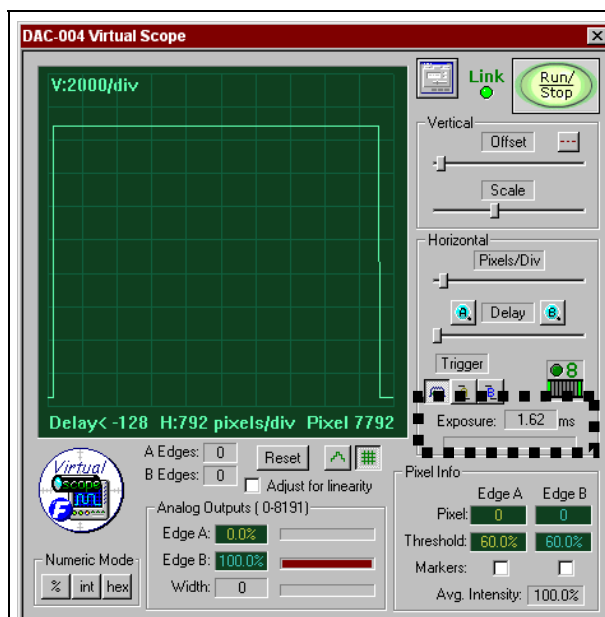
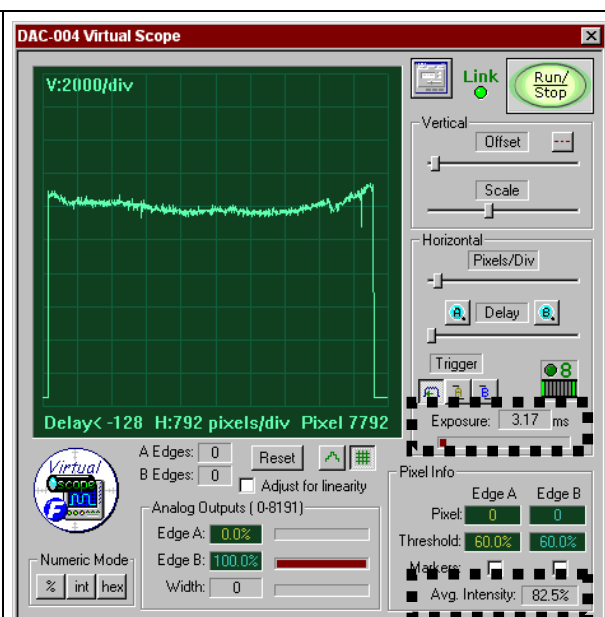

Figure 8 – Signal saturated
Figure 9 – Signal not saturated
The exposure indicates the amount of time that light is allowed to collect on the CCD array between scans. The camera output can only respond as fast the exposure time, so smaller exposure times produce a faster camera output response. The 'Exposure' time in milliseconds is located at the bottom of the horizontal controls. For guiding purposes this time should be as short as possible and should not exceed 20 (ms). Adjust the aperture by turning the aperture set ring (10) as shown Figure 1. An almost square signal will be seen on the Virtual Scope when the aperture is set correctly (see Figure 9).
Automatic— For automatic exposure adjust the aperture until the exposure time is the shortest without saturating. If the photodiodes receive too much light the aperture is too large for the current exposure time as in Figure 8. To adjust the amount of light, rotate the aperture ring on the camera. The smaller the number on the aperture ring the more light is let into the camera. Set the aperture to the lowest number without saturating the signal in Figure 9.